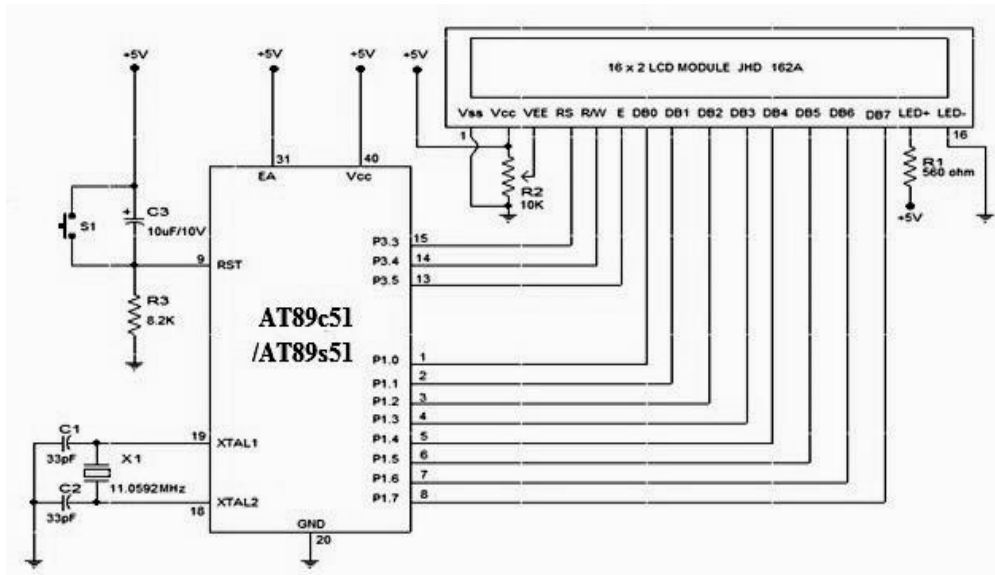

Fig 20.2 8051 connection to 16 X 2 LCD display
7. Interface LCD display to microcontroller as per circuit diagram shown in Fig 20.2